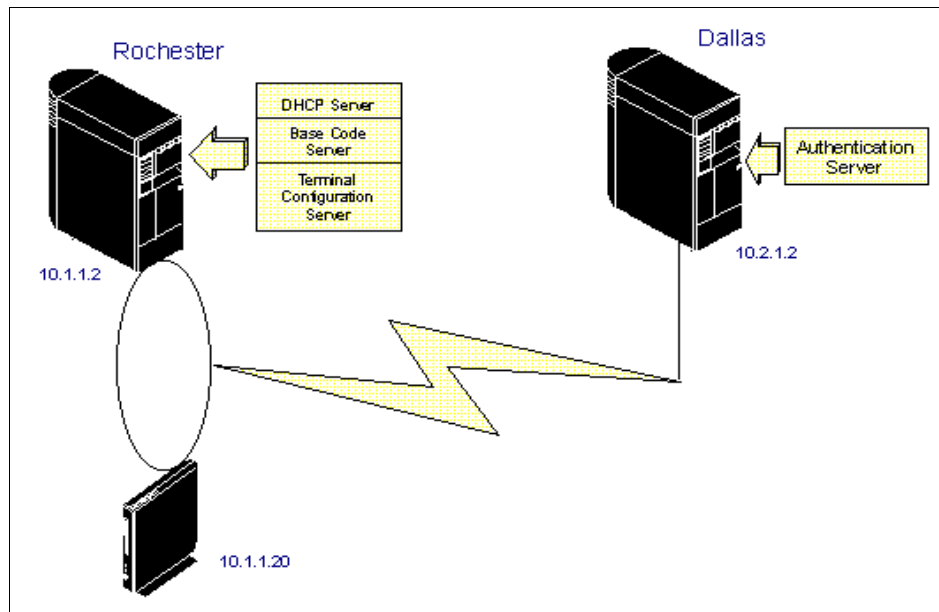

Figure 1. Roaming User Example
- As shown in Figure 1 on page 8, users from Dallas are visiting your central site in Rochester and want to sign on and receive the same desktop environment that they have at home using the roaming function. User can click on the **Roam** button on the IBM Network Station logon display and then enter the name or IP address (10.2.1.2) of their Authentication Server in Dallas. At that time, their own preferences are downloaded over the TCP/IP network to the IBM Network Station (10.1.1.20) from the Dallas system and the users see their *home* desktop.